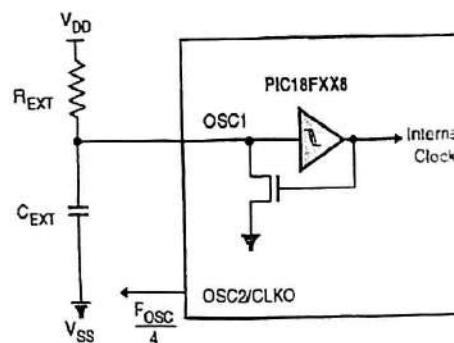

Fig. 1.11.5 : RC oscillator connected to PIC18FXX8
- The resonant frequency of RC oscillator depends on supply voltage rate, resistance R, capacitor C and working temperature. The resonant frequency is also influenced by normal variations in process parameters, by tolerance of external R and C components, etc. Fig. 1.11.5 shows how RC oscillator is connected with PIC18FXX8. The value of resistor R should be between 3 K Ω and 100 K Ω .